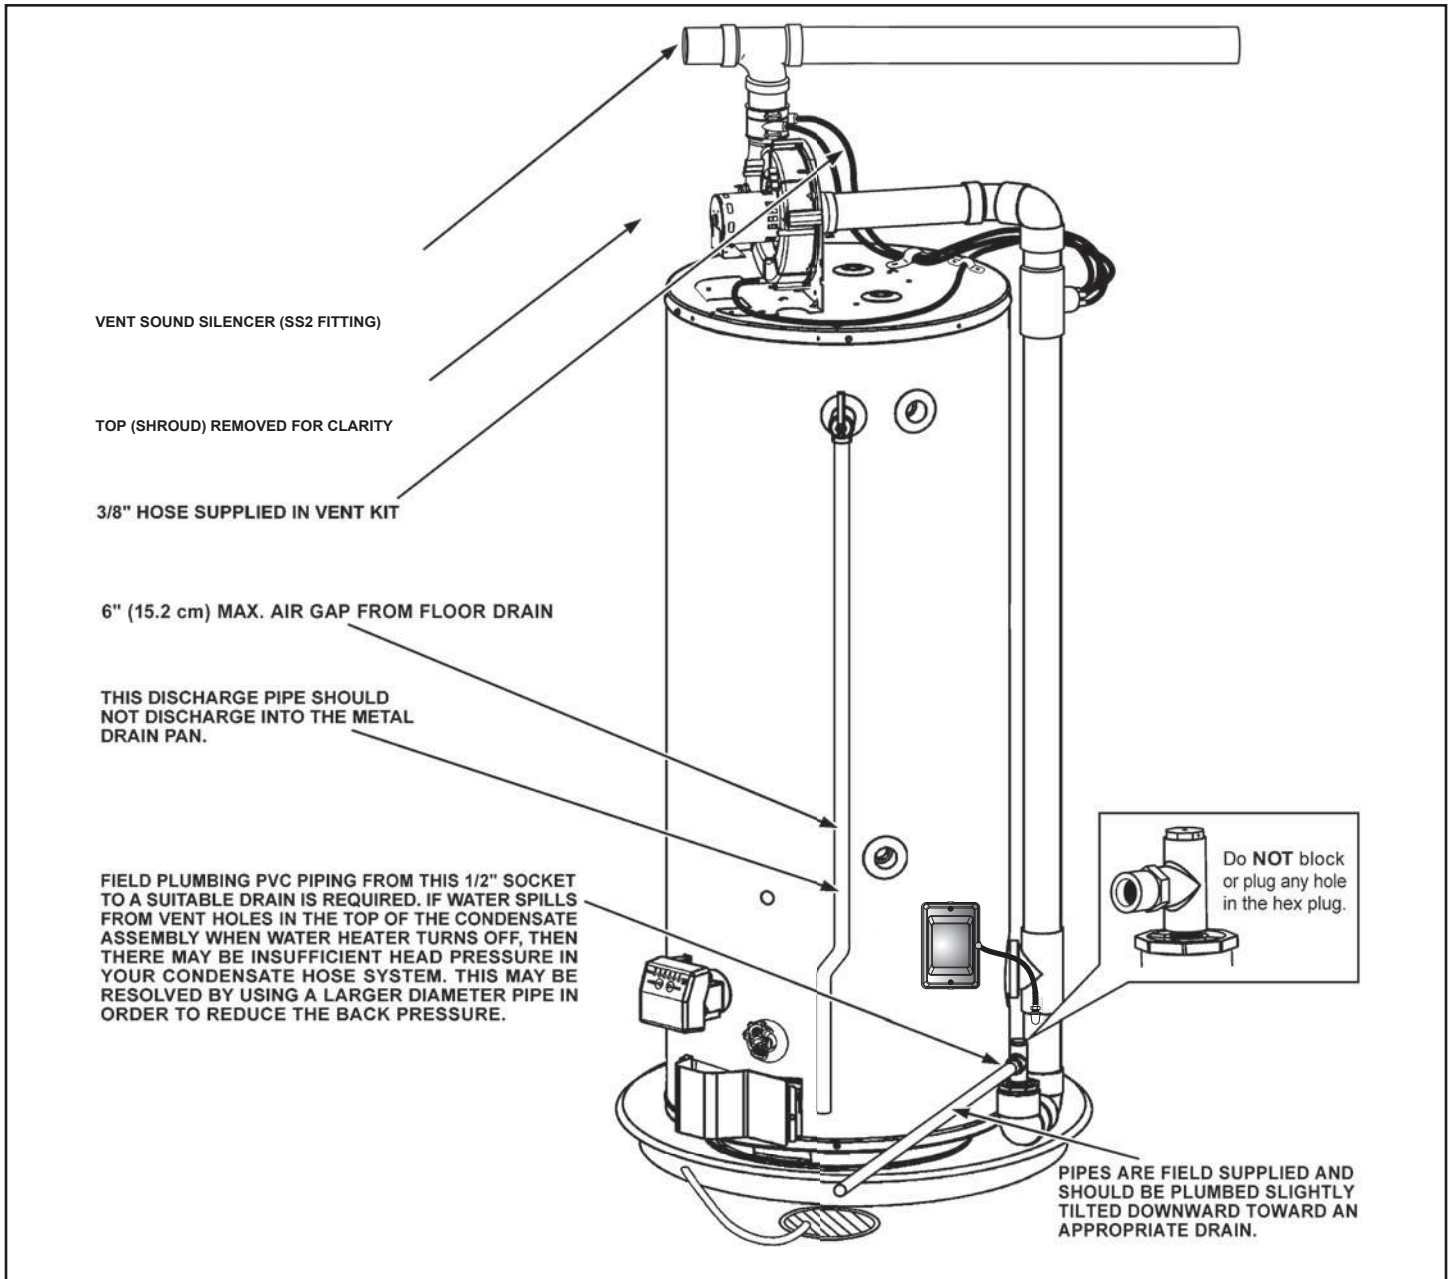

Figure 2. Features and Components - Left Side
5. Carefully plan the place where you are going to put the water heater. Correct combustion, vent action, and vent pipe installation are very important in preventing death from possible carbon monoxide poisoning and fires. See *Figure 1* (page 7) and *Figure 2* (page 8).